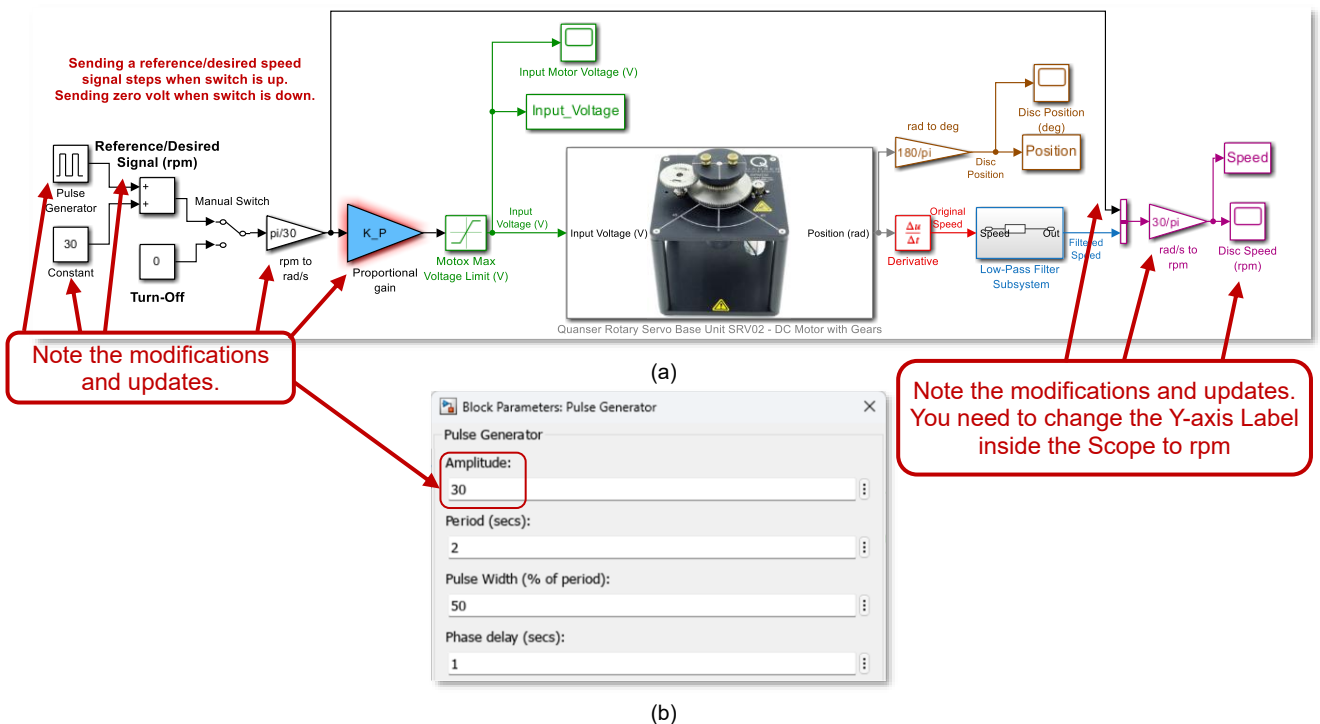

Fig. 2-10. Modified Simulink model for DC motor open-loop control. (a) Block Diagram model. (b) Pulse Generator block parameters.
12. Modify the Simulink model template to include a **Gain block** with parameter K_p (to be calculated) and **repurpose** the Pulse Test signal blocks to generate the **reference** motor speed signal (**desired output** or **set-point**) for the open-loop control system (Fig. 2-10(a)).
a. **Update** the Pulse Test Signal blocks in the Simulink Template for a reference (desired) motor speed step levels of **30 rpm (≈ 3.1416 rad/s)** and **60 rpm (≈ 6.283 rad/s)** at intervals of **2 sec** with **50% duty cycle** and a starting time of **1 sec** (Fig. 2-10(b) and the updated constant block in Fig. 2-10(a)). We wish to **display** the response and the reference in **rpm**.